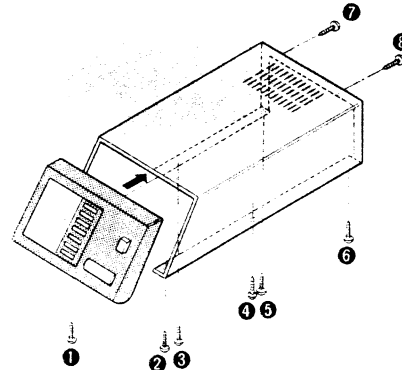

Fig. 1
1. Remove the 8 setscrews (Fig. 1 : ① ~ ⑧) of the cabinet.